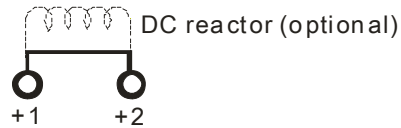

Figure 5-2
- ✓ Use the terminals, as shown in Figure 5-2, to connect a DC reactor to improve the power factor and reduce harmonics. A jumper is connected to these terminals at the factory. Remove that jumper before connecting to a DC reactor.